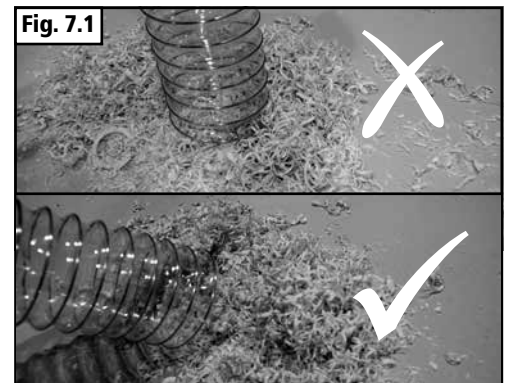

Fig. 7.1
- If the 102mm diameter hose is used for cleaning always ensure that the hose is angled as shown in Fig. 7.1.